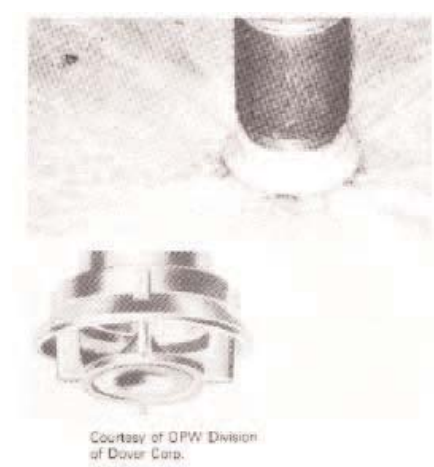

Figure 13 A simple deflector resting on the tank bottom reduces splashing and spraying and helps counter reaction force.
- Do use a proper type of deflector on the loading spout, as shown in Figure 13. A good deflector helps prevent the spout from being thrown out of the tank, and when resting on the tank bottom minimizes the spraying and splashing which create mists and help generate a static charge. A tee on the end of a loading spout, as shown in Figure 14, is not satisfactory because it causes excessive splash and spray which increase the generation of static electricity.